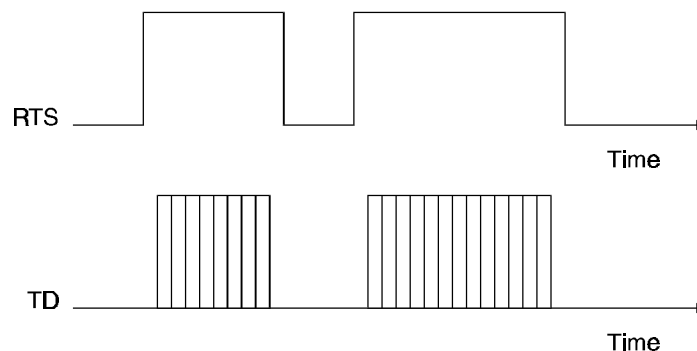

Figure 5-2 RTS/TD UART data timing
The RTS signal is not used in the four wire master configuration. This signal is generated by the UART and goes high slightly before any data is transmitted and returns to low after the last character has been transmitted from the UART. See Fig. 5-2 for the timing of the RST signal relative the to TD signal. Note that the transmitted data (TD) may be high or low during the active period.